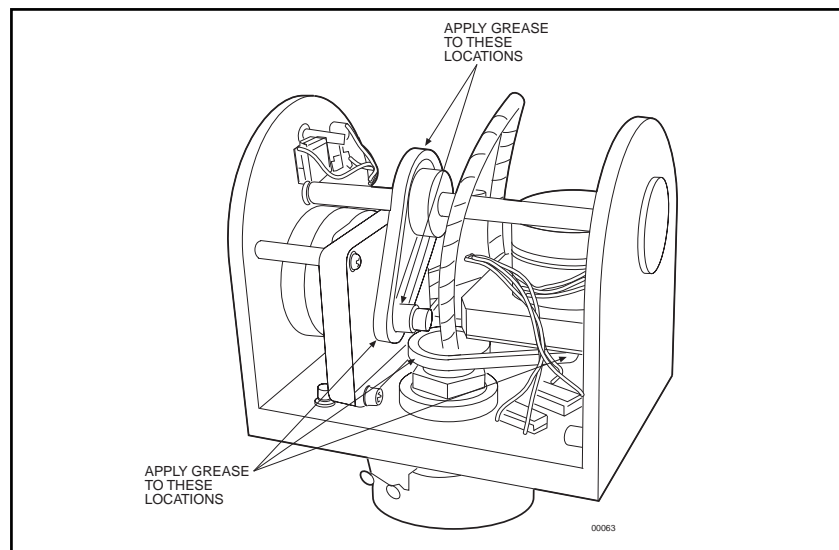

Figure 6. Servicing the Pan and Tilt
1. Liberally apply grease to the pan and tilt drive chains and sprockets (refer to Figure 6).